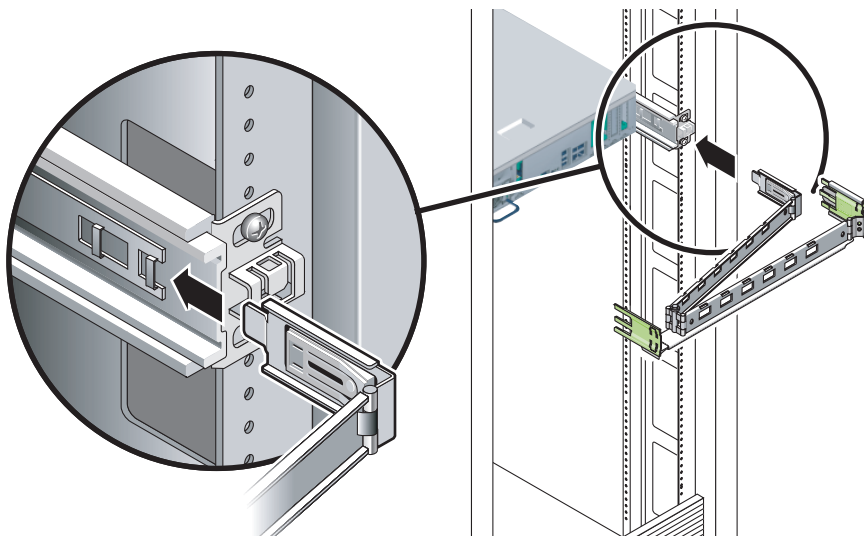

FIGURE 3-31 Mounting the Inner CMA Connector
2. Insert the smaller CMA extension into the clip located at the end of the mounting bracket (FIGURE 3-31).